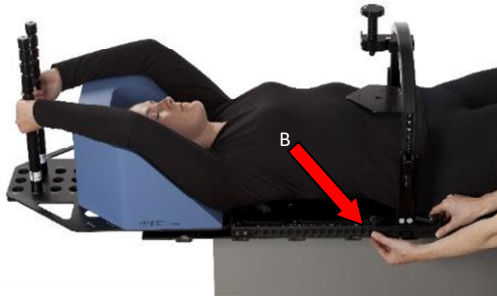

Figure 4
4. Position the arch on the baseplate so the screw will touch the pressure plate once you screw it down. Attach the arch to the base plate by opening the clamps (B) on both sides, finding the correct position of the arch and closing the clamps again. The arch indexes onto the round holes on the side of the base plate. For repositioning purposes write down the location of the arch. The different locations are numbered on the base plate E1 to E28. (Figure 4)